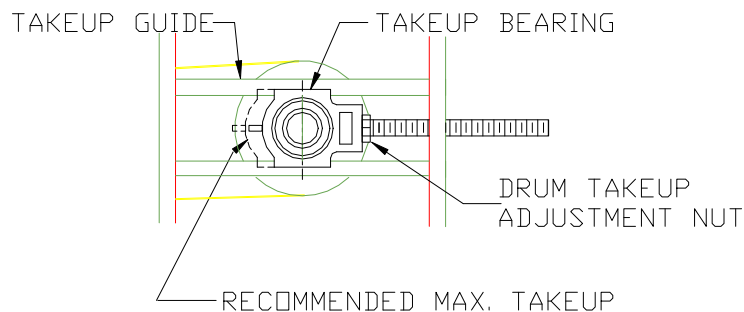

FIG. 2
- D. Locate and lock take-up bearing to insure maximum take-up. (Figure 2.)
1. Tie a nylon fishing line tightly around the front and rear drums as shown in figure 1. Make sure to do the adjusting procedure at A, B, C, D, E, and F as shown in figure 2.